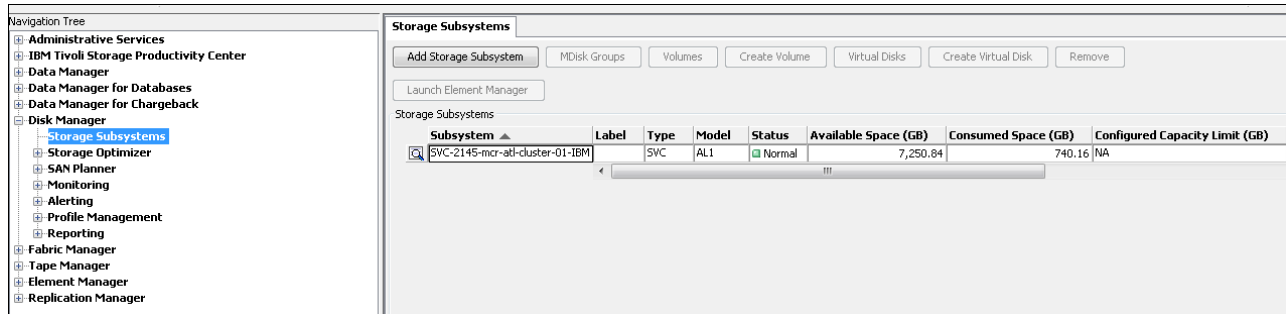

Figure 11-88 Storage Subsystem view
1. After successfully adding your IBM Storwize V3700 system, click **Disk Manager** → **Storage Subsystems** to view your configured devices, as shown in Figure 11-88.